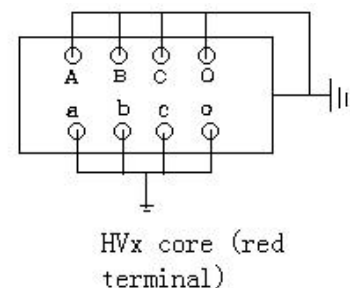

Figure 14 Connection of transformer
(3) Secondary winding to primary winding and ground
A. See Figure 14